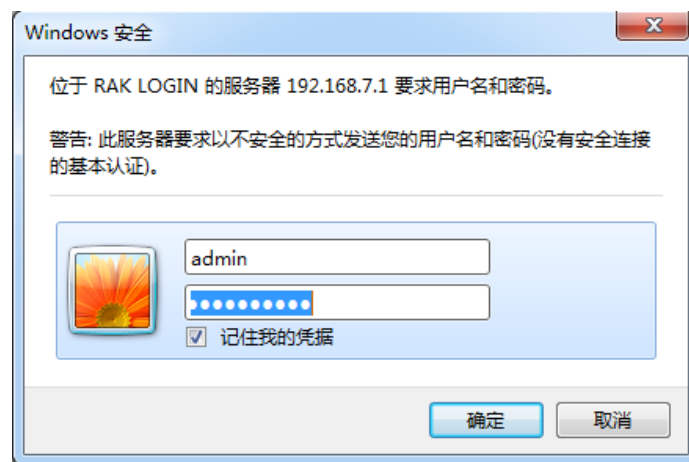

Figure 1-3 Module Authentication Page
2. After the web page is loaded, an authentication window will pop up as shown in Figure 1-3. Enter the default authentication information (User name: admin Password: admin) and click **OK**, and the page will jump to the module settings interface.